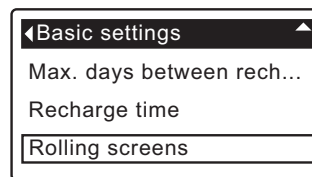

FIG. 43
3. Press the SELECT (O) button to display the Basic settings menu (See Figure 43).
7. To un-select a screen, make sure its name is highlighted in a box. Then press the SELECT (O) button. The black square will disappear. Pressing SELECT (O) again makes the black square reappear and re-selects the highlighted item. At least one screen must be selected/highlighted.
8. When selections are complete, exit this menu by pressing the LEFT (◀) button. The display will go back to the Basic settings menu (Figure 43).